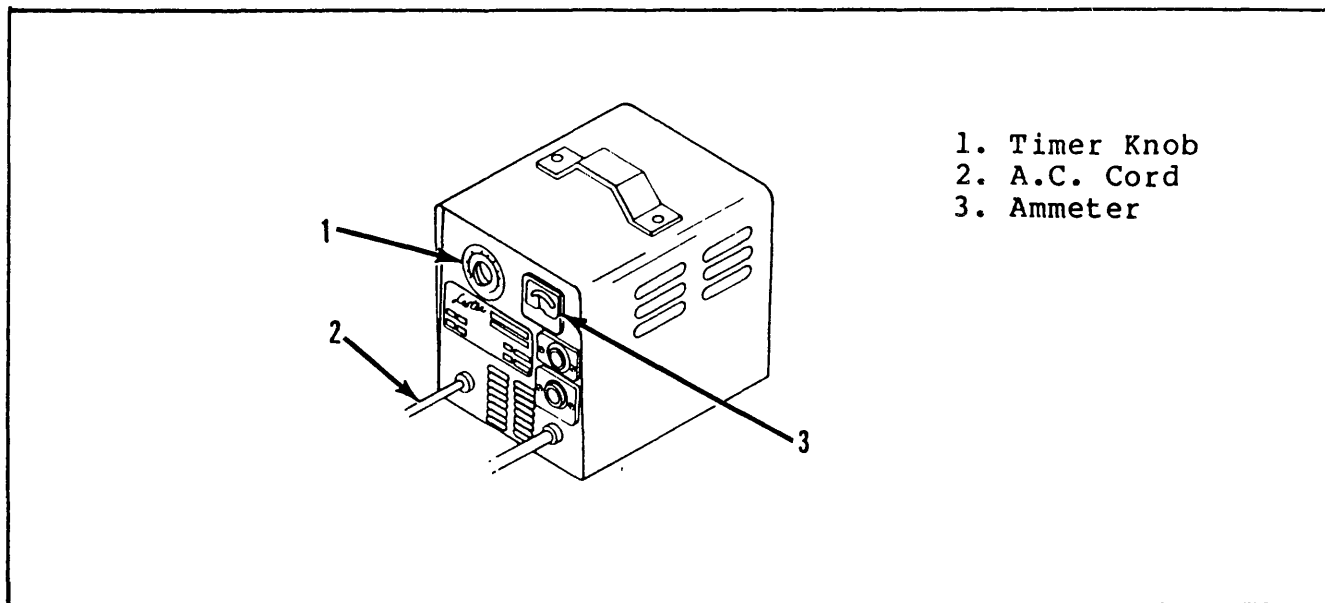

Figure 5-4. Battery Charger
b. Battery Charging (See Figure 5-4).
(1) Charge batteries at end of each work shift or sooner if batteries have been discharged.